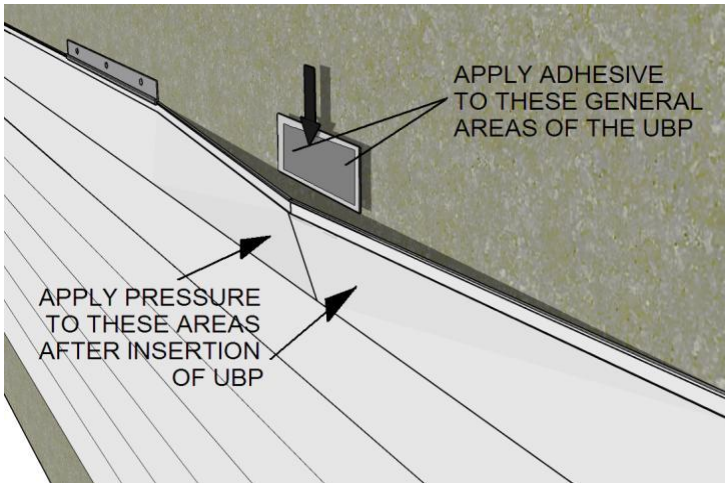

Fig. 3
10. Insert the cemented UBP behind the joint centered between the clapboards (See Fig. 3).